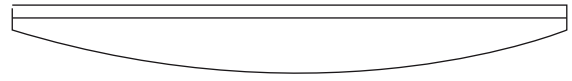

Fig. 1a
If your television has a straight back, Spacers are not required. Use the selected bolts (A-E) and square washers (I) to install the bracket directly on the back of the television as shown in Fig 1a. Make sure that the two brackets are equal in height and are level. Once the brackets are aligned, securely tighten the bolts.
If your television has a curved back and mounting holes are recessed (Fig 1a), spacers are required. Install the spacers (M) between the display and the bracket as shown in Fig 1b. Then use the selected bolts (F-H) and square washers (I) to install the brackets with spacers to the back of the television. Make sure that the two brackets are equal in height and are level. Once the brackets are aligned, securely tighten the bolts (Fig 1b).